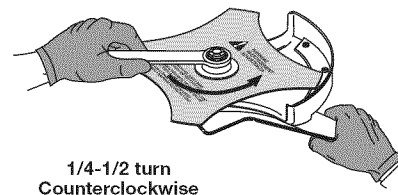

Fig. 9
- Without a torque wrench, use a 5/8 inch closed-end or socket wrench, turning the nut until the blade retainer is snug against the shaft bushing. Make sure that the blade is installed correctly, then rotate the nut an additional 1/4 to 1/2 turn counterclockwise (Fig. 9).